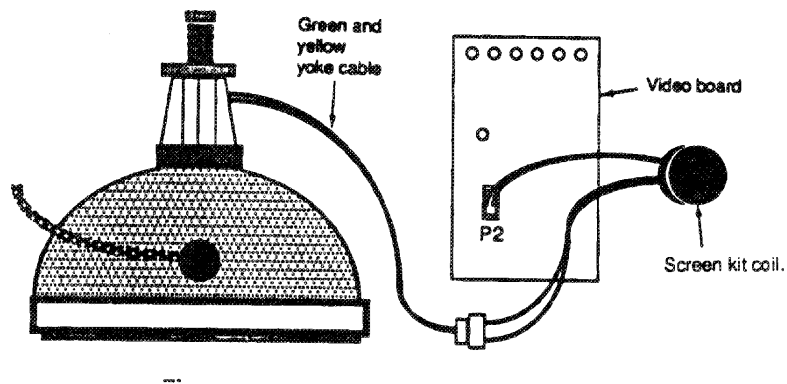

Figure 29 XL screen kit wiring details.
12. Unplug the green and yellow CRT (yoke) to P2 cable from the video board. As illustrated in Figure 29, P2 is located